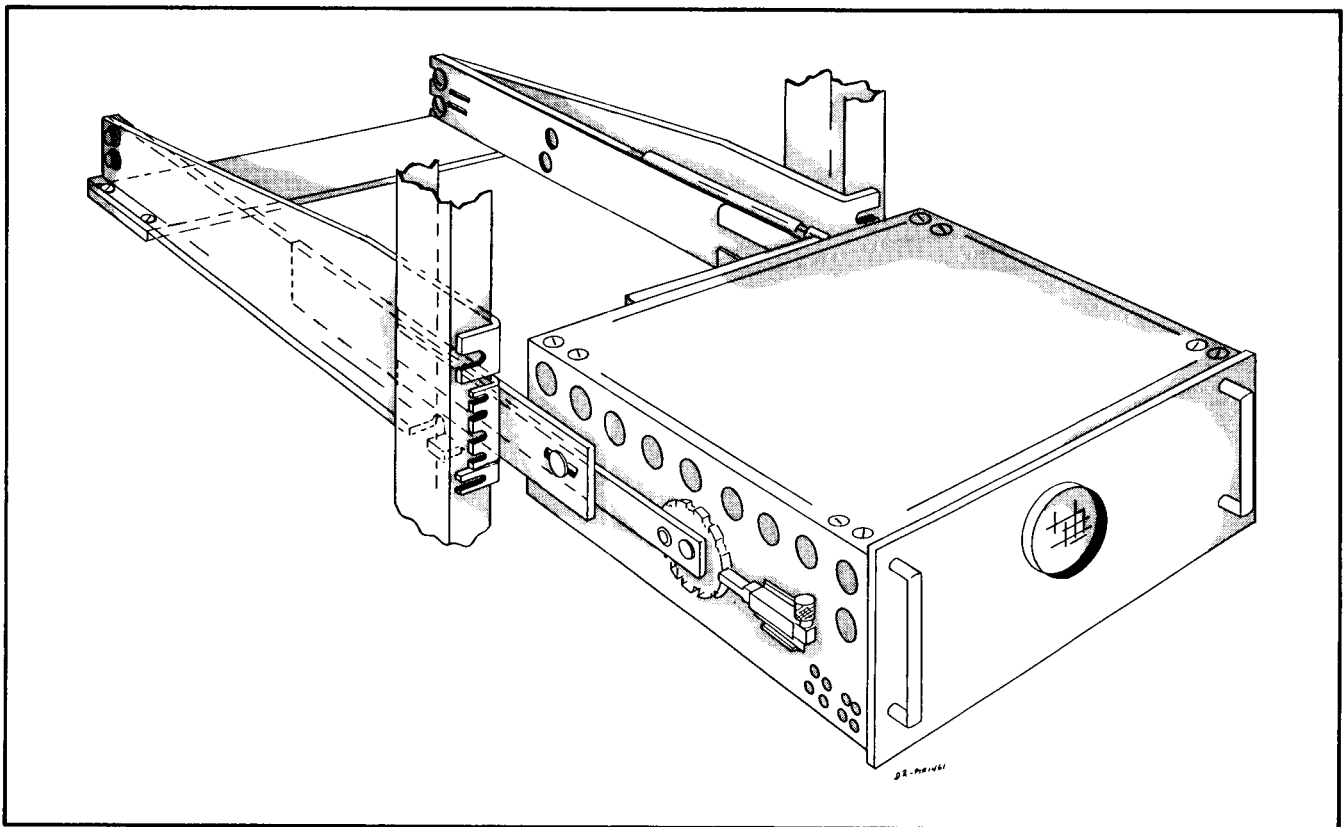

Fig. 2-3. The completed installation. It may be necessary to loosen the bolts and allow the slide mechanism to adjust to the weight of the instrument.
5. Place the Type RM17 in the Chassis-Trak slides as shown in Figure 2-3. Operate the slide mechanism several times with the instrument installed. If the operation of the slides is not smooth, loosen the mounting bolts and allow the slide mechanism to adjust to the weight of the instrument. Be sure to retighten all bolts after the mounting has been adjusted.